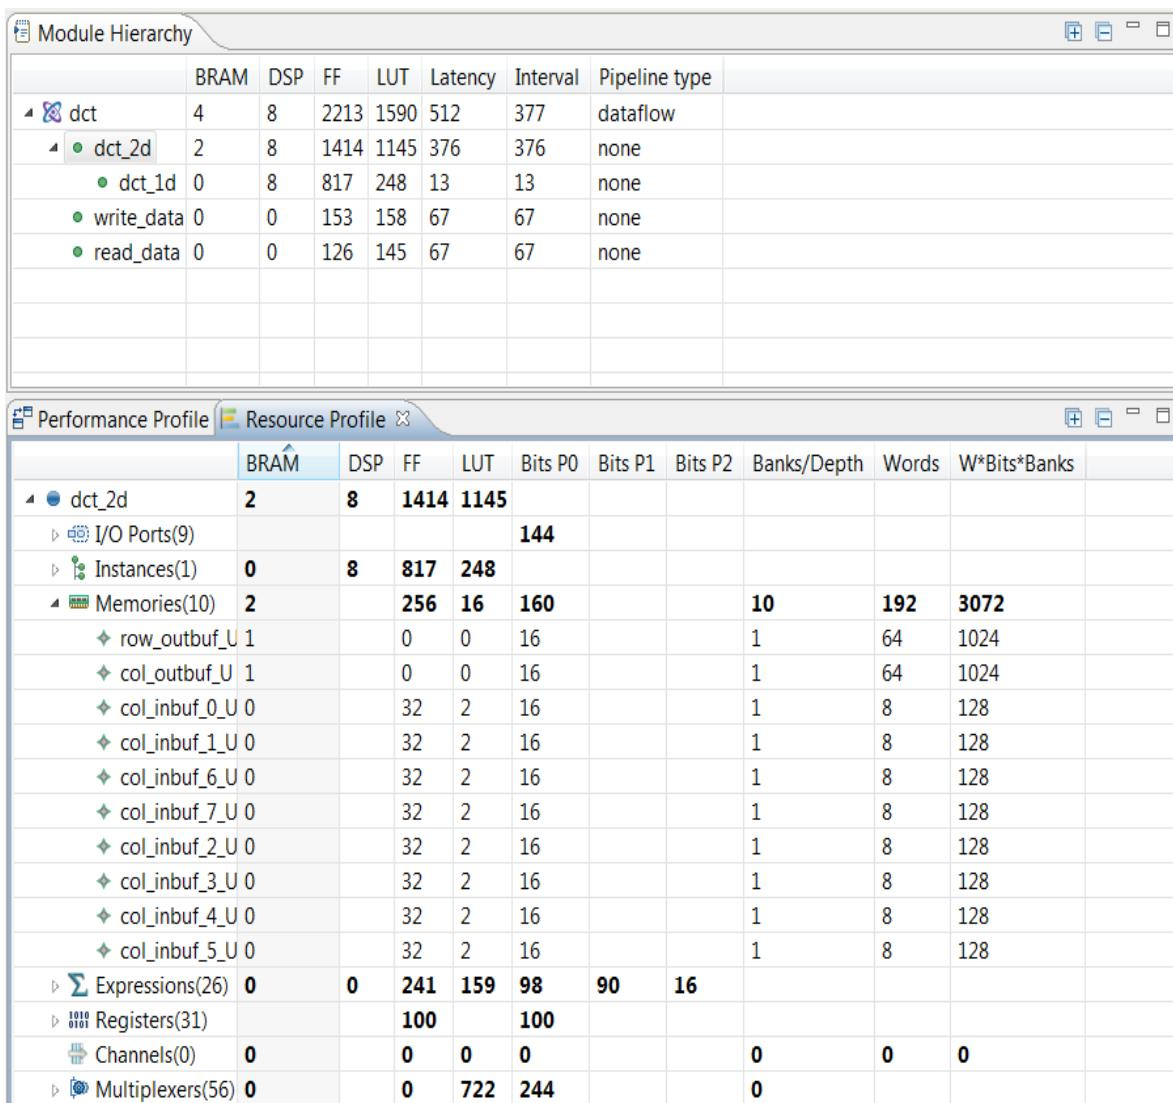

Figure 6-32: DCT Resource Profile
Because the `dct_2d` block is selected in the Module Hierarchy and the Performance Profile shows the details for this block. Figure 6-32 shows the interval is the same as the latency, so none of these blocks operate in parallel.
11. Expand the memories to see the view in Figure 6-32.